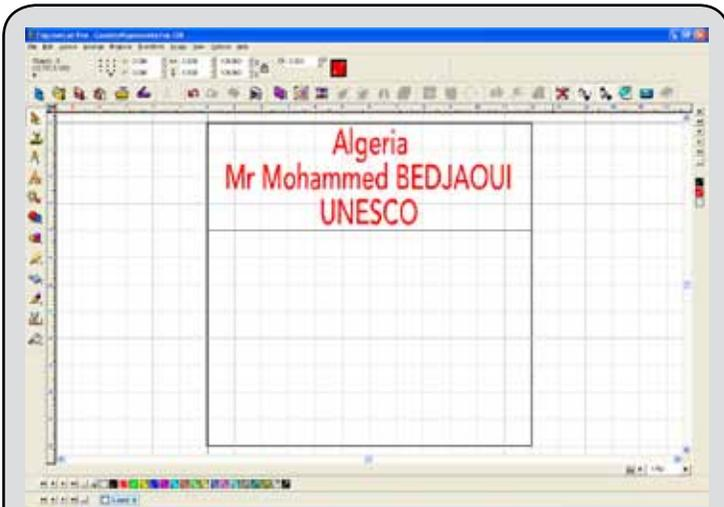

Fig. 43 - After badges have been created, the view will return to the EngraveLab workspace, where text substitution for each badge has occurred.
- When the badges have been completed, the workspace will display the first badge in the series (Fig. 43).